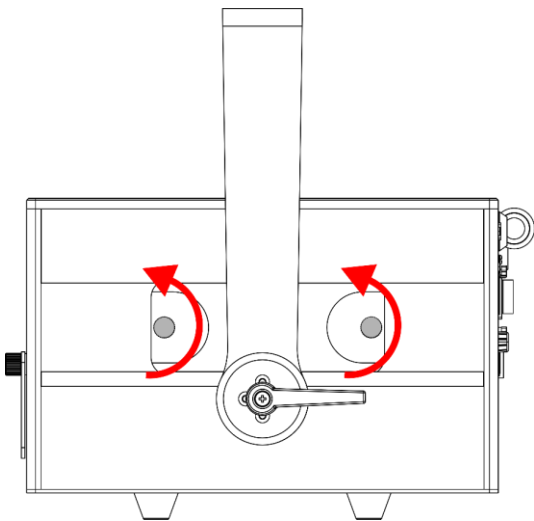

Fig. 15
- 01) Turn the 2 **cover plate adjustment screws (03)** counterclockwise, as shown on Fig. 15.